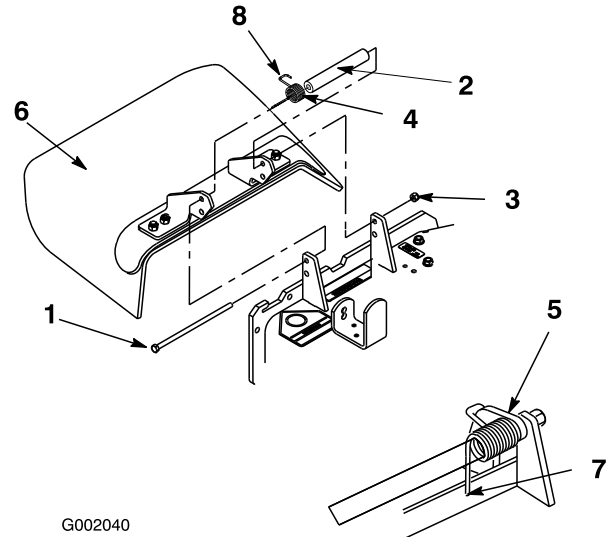

Figure 64
1. Remove the locknut, bolt, spring and spacer holding the deflector to the pivot brackets (Figure 64). Remove the damaged or worn grass deflector.
Note: Make sure the L end of the spring is installed behind the deck edge before installing the bolt as shown in Figure 64.
3. Install the bolt and nut. Place the J hook end of the spring around the grass deflector (Figure 64).